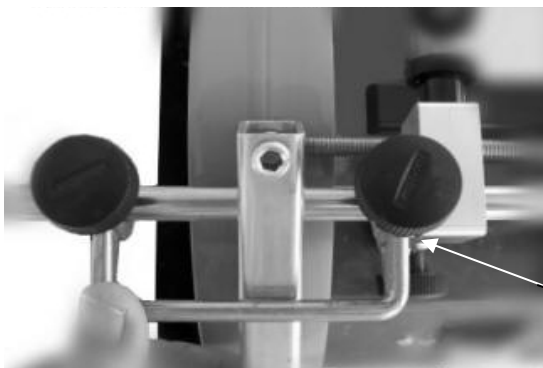

Figure 4
- 5) Install and adjust the ADV-50D or DT-1 Truing Tool as normal, making sure it contacts the TRUING TOOL ADVANCER Jig Body.* (Fig. 4)